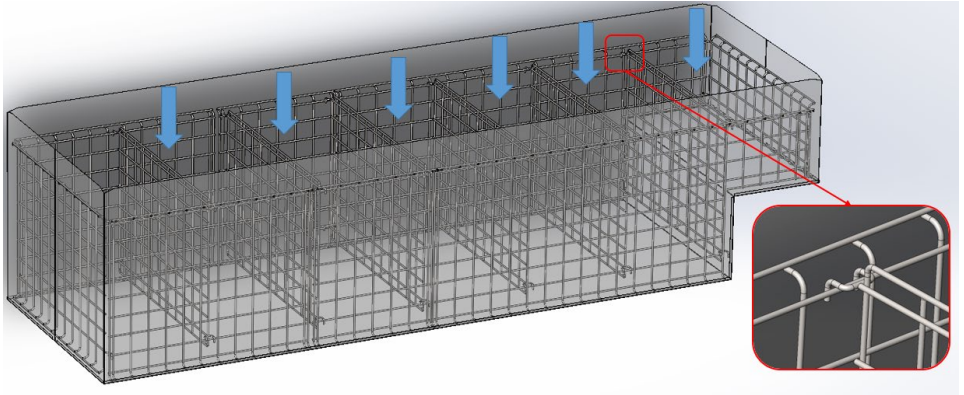

Fig. 4.1.3. Installation of partitions.
3. We install partitions designed to divide the internal space. The design allows you to arbitrarily adjust the width of sections, especially the layout of the product (Fig. 4.1.3).